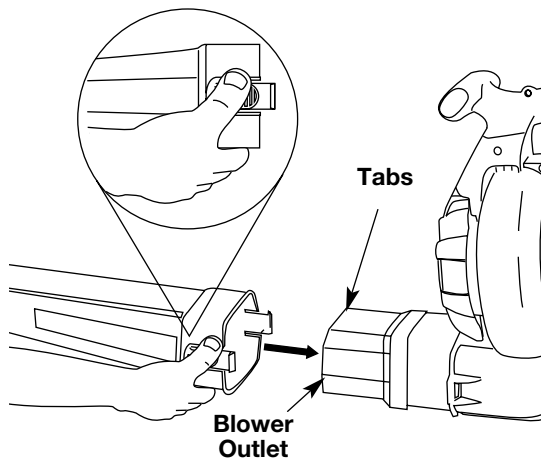

Fig. 1
Install the blower tube over the blower outlet and push it on until both tabs snap into place (Fig. 1).
- Remove the blower tube by pressing both tabs at the same time and pulling off the blower (Fig. 1).
In order to use the gutter clean-out attachment kit, you must install the gutter clean-out adapter (Part #753-05231 not included). Push the adapter onto the blower outlet until both tabs snap into place (Fig. 1). Refer to the Gutter Attachment Kit manual for more information.